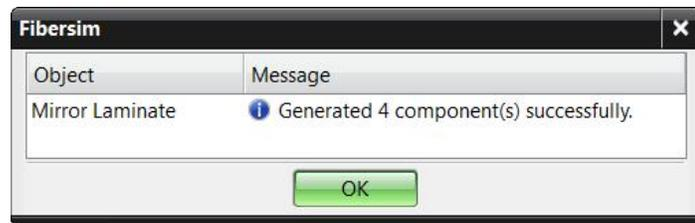

Figure 3–23
11. In the Mirror Laminate dialog box, click  to complete the mirror operation and return to the list view. The updated list of plies P001 to P008 displays as shown in Figure 3–24.